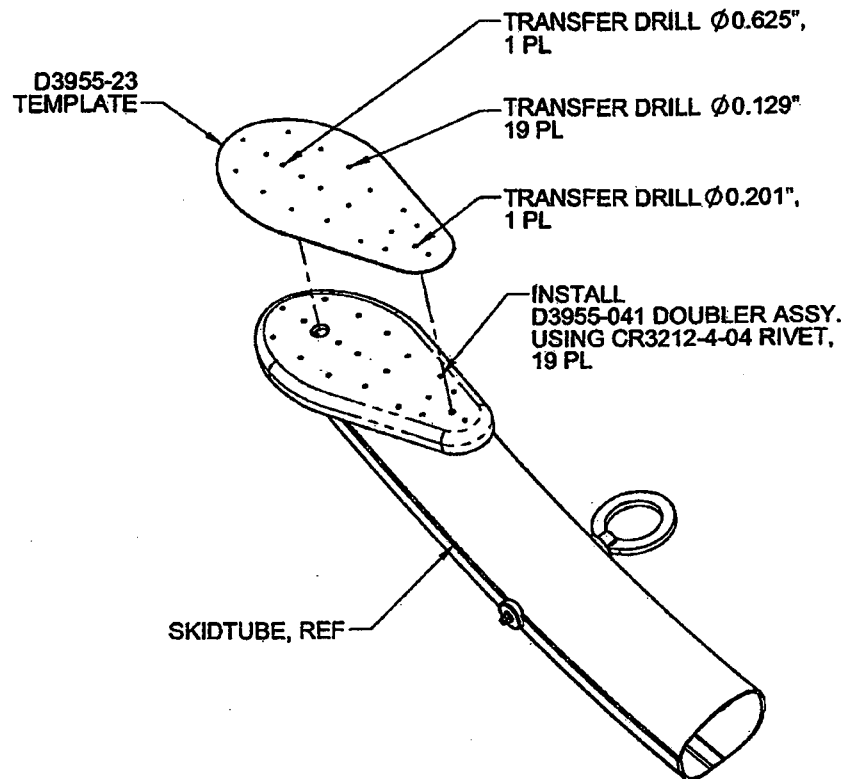

Figure 1
- 2) Transfer drill 1 x Ø0.625" (15.8 mm) from the D3955-23 template to the skid tube as shown in Figure 1.
- 3) Transfer drill 1 x Ø0.201" (#7 drill) from the D3955-23 template to the skid tube as shown in Figure 1.
- 5) Apply a layer of Sikaflex-241/-291 or Proseal 890 or MIL-S-8802 Class B2 sealant between the D3955-041 Doubler and the existing skid tube cap. Install D3955-041 Doubler Assy. using 19 x CR3212-4-04 rivets as shown in Figure 1. The nutplate in the D3955-041 Doubler Assy should pass thru the Ø0.625 hole in the cap.